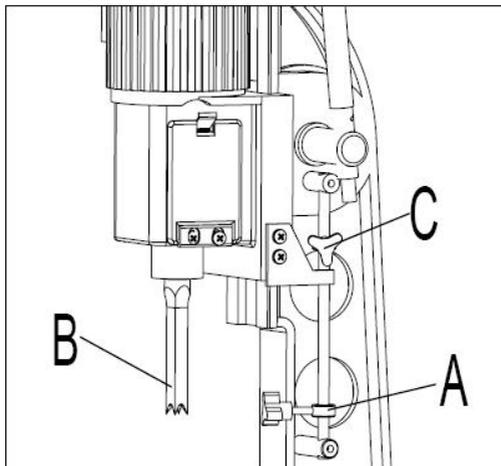

Fig. 6
A depth stop guide (A) Fig. 6, is provided to limit the depth of the chisel (B). To adjust the depth stop guide (A), loosen handle (C) and lower head until the chisel (B) is at the desired depth. Lower depth stop guide (A) until it is at the desired depth, tighten handle (C).